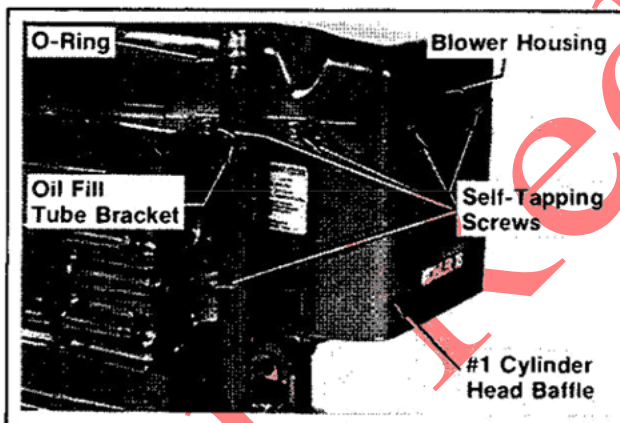

Figure 9-15. Removing #1 Side Cylinder Head Baffle.
3. Remove self-tapping screws securing the oil fill tube bracket to #1 side cylinder head baffle and blower housing. Remove o-ring from oil fill tube and slide bracket off of tube. Remove remaining self-tapping screws and #1 side cylinder head baffle. Refer to Figure 9-15.